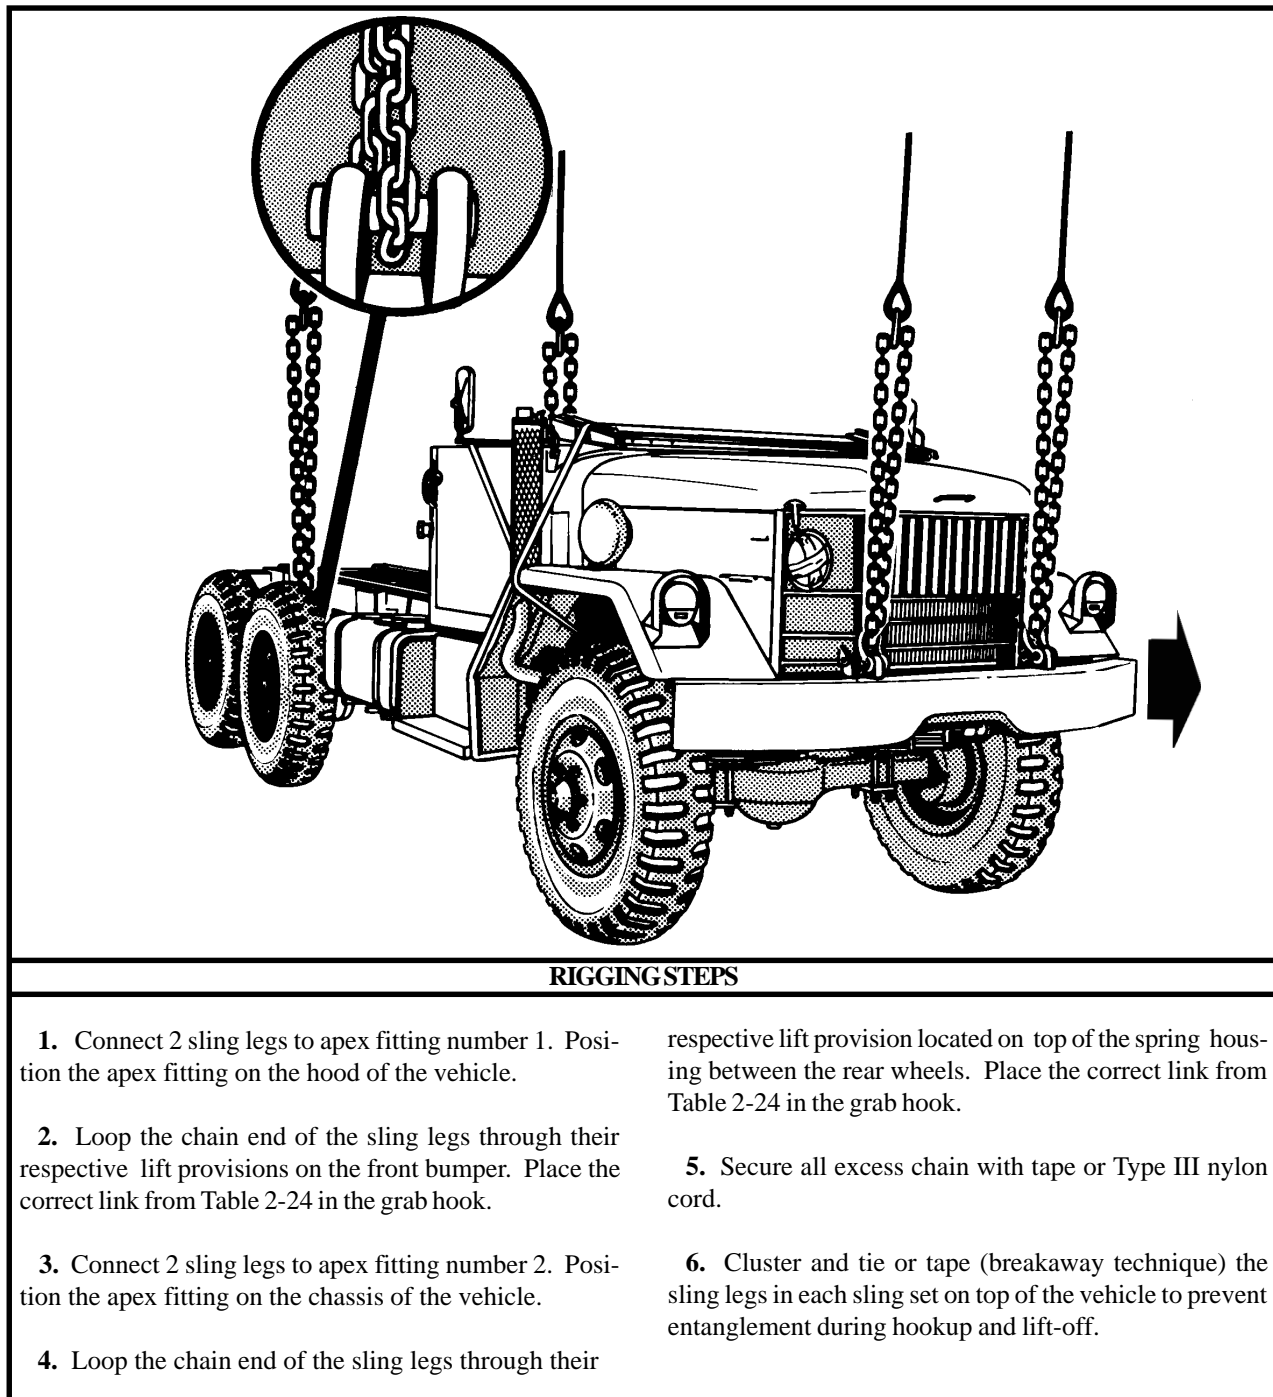

Figure 2-23. Truck, Cargo, 2 1/2-ton, M35A2 Modified
(2) **Rigging.** Rig the load according to the steps in Figure 2-23.
(4) **Derigging.** Derigging is the reverse of the preparation and rigging procedures in steps d (1) and d (2).